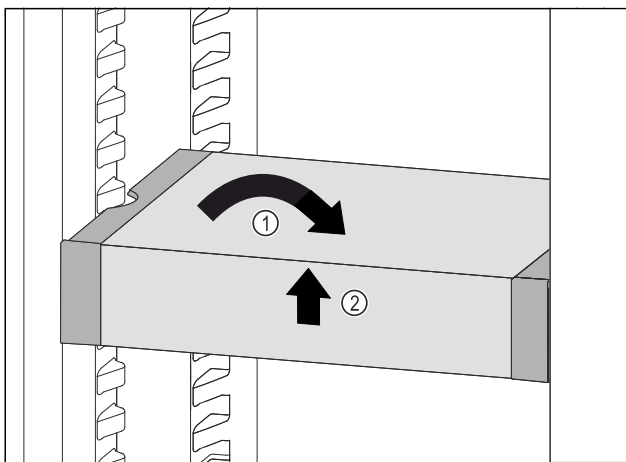

Fig. 89
- ▶ Set VarioSafe straight. Fig. 89 (1)
- ▶ Lift VarioSafe at the front. Fig. 89 (2)